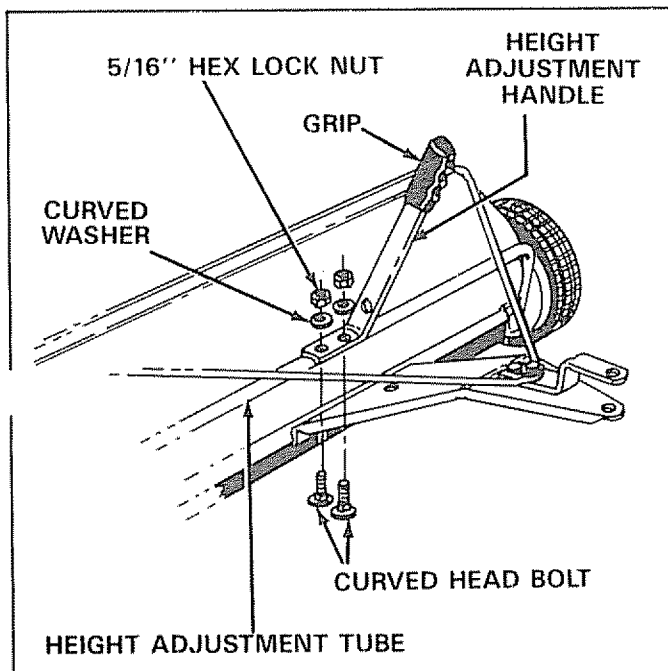

FIGURE 6
5. Remove two 5/16" hex nuts and 5/16" curved washers from the height adjustment tube. Assemble the height adjustment handle to the height adjustment tube using the two curved head bolts through the height adjustment tube. Push handle to left and secure tightly with two 5/16" curved washers and two 5/16" hex nuts. See figure 6.
6. Assemble the grip, with finger knobs as shown, to the height adjustment handle. See figure 6.